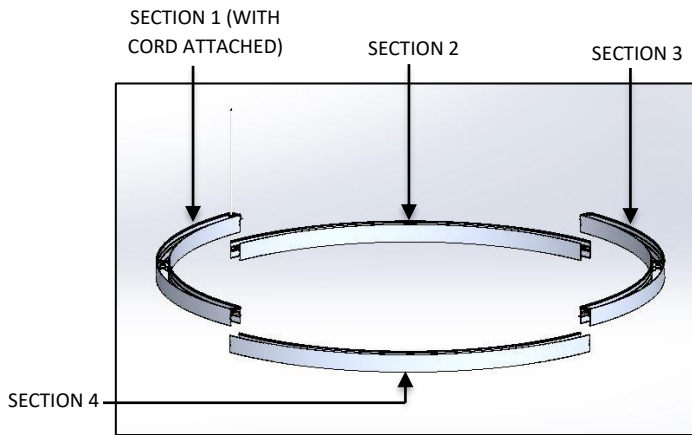

FIG. 2 - TWIN LUMINAIRE SECTIONS
1. TWIN LUMINAIRE SECTIONS (shown in FIG. 2)